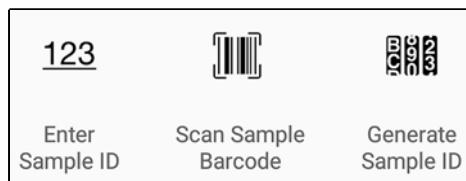

Figure 9. Sample ID Icons
12. Enter the Sample ID by manually entering or scanning or randomly generating a sample ID (see Figure 9):